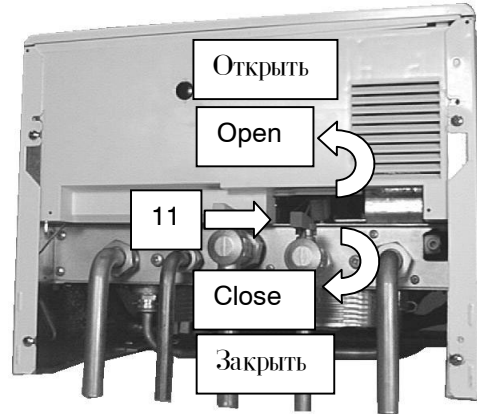
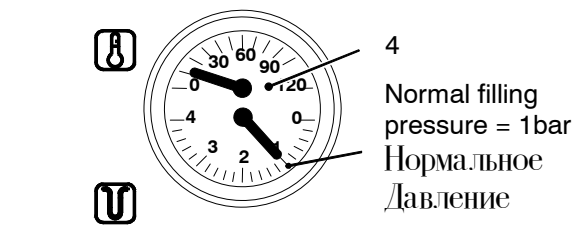

Fig. 2-1
Fig. 2-2
Ensure that the c.h. circuit is regularly filled with water (even if the boiler is only used for d.h.w. supply) checking that the pressure indicated on the temperature and pressure gauge 4 is not lower than that shown in Fig. 2-2.
If the pressure reading on the pressure gauge is below that shown in Fig. 2-2, then the system will require topping up. A filling loop is normally provided by the installer for this purpose.
- 2 Open the c.h. circuit filling valve 11 (Fig. 2-1) until the pressure reaches the normal filling pressure as shown in Fig. 2-2.
- 2 Откройте кран заполнения системы отопления 11 (рис.2.1) и закройте, когда давление достигнет значения, указанного на рис.2.2.